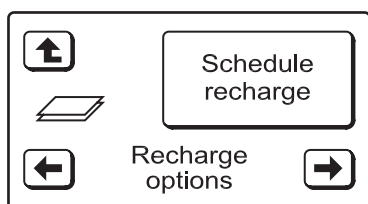

FIG. 39
5. Press the button next to ON, then press the RETURN (↵) button. The display will go back to the screen shown in Figure 39.